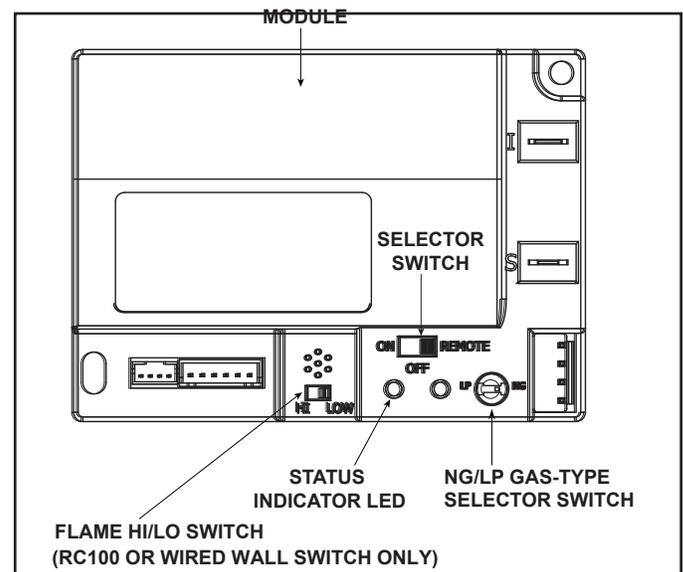

Figure 12.4 Control Module
1. The control module has an ON/OFF/REMOTE selector switch that must be set. See Figure 12.4.
3. If using a wired wall switch with the module in REMOTE mode, the flame output can be adjusted with the HI/LO selector switch on the module. See Figure 12.4. Note that the flame HI/LO selector switch will become inactive once an optional remote control (RC200/RC300) is programmed to the control module. Note that the control module will always ignite the fireplace on HI and remain so for the initial 10 seconds of operation. If the HI/LO is switched to the LO position, the flame output will automatically drop to the lowest setting after the flame has been established for 10 sec. After this 10 second period, the flame can be adjusted from HI to LO with the switch.